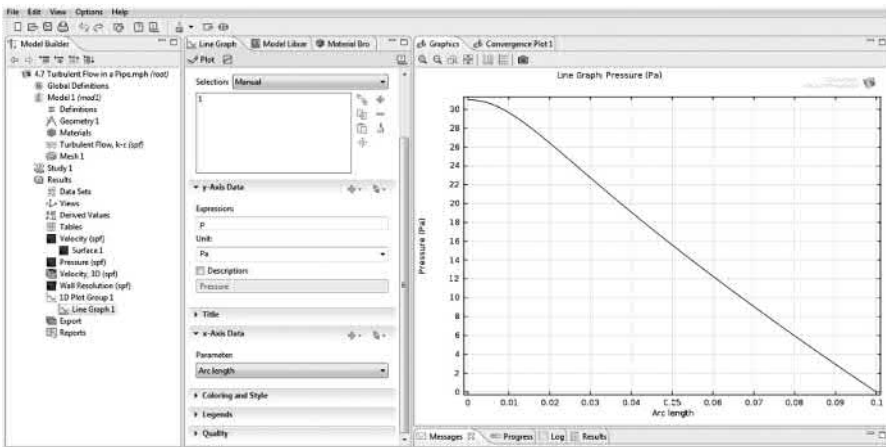

FIGURE 4.12 Pressure in turbulent flow along centerline.
- Select the left boundary on the rectangle graph. Click on the “+” sign at the top right corner; this will add *boundary 1* in the *Boundary Selection* tab. Change the  $x$ -axis data to Arc length. Click on *Plot* icon in the *Line Graph*. A graph will appear giving the profile of *Pressure ( $p$ ) versus Arc length* for centerline as shown in Figure 4.12.